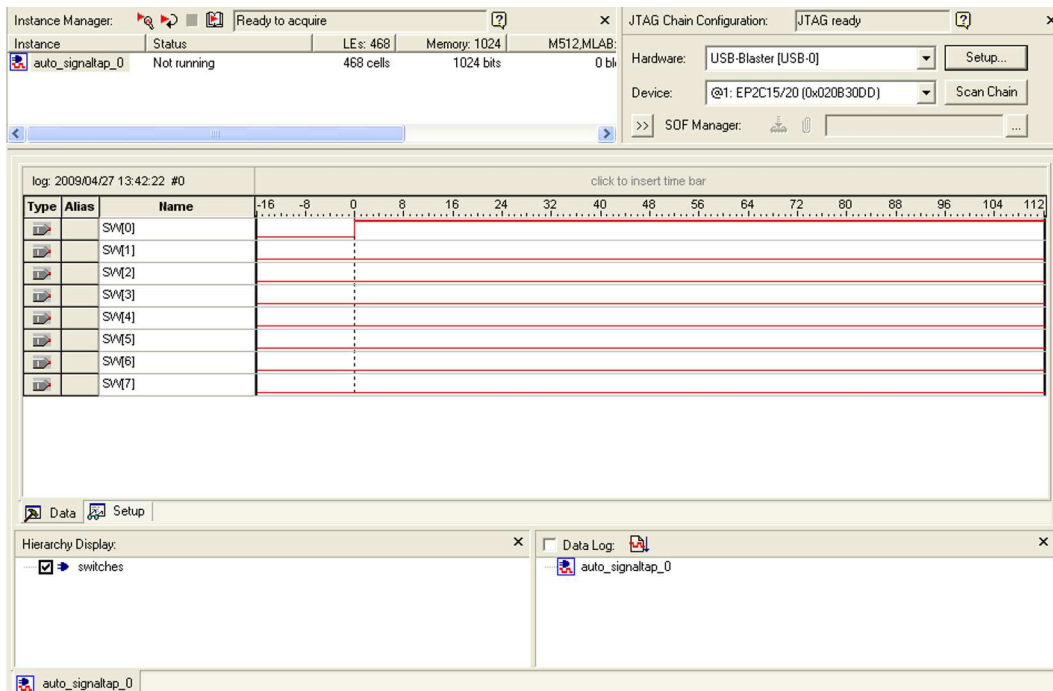

Figure 12. Graphical display of values after trigger condition is met.
- Now, to observe the trigger feature of the Logic Analyzer, set Switch 0 on the DE1 board to high. The data window of the SignalTap II window should display the image in Figure 12. Note that this window shows the data levels of the 8 nodes being tapped before the trigger condition was met and also after. To see this, flip on any of the switches from 0-7 and then click Run Analysis again. When switch 0 is set to high again, you will see the values of the switches displayed on the SignalTap II Logic Analyzer.